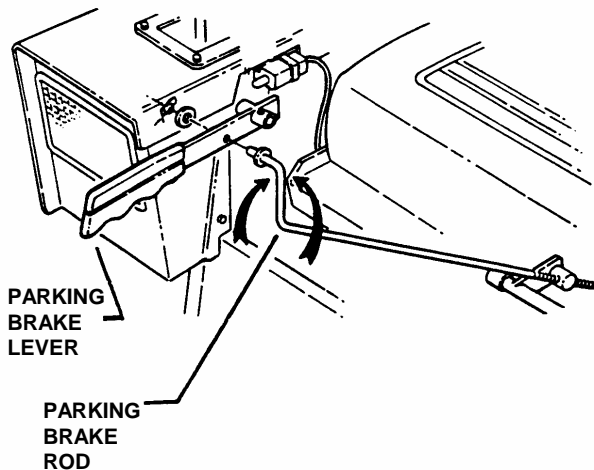

FIGURE 5.3
1. The parking brake can be adjusted by removing the rod from the lever and rotating it clock-wise to increase brake tension. When properly adjusted, the parking brake lever should require 18 to 22 pounds of force to set the brake. If this adjustment does not result in proper braking action contact your authorized SNAPPER dealer for corrective action. See Figure 5.3.